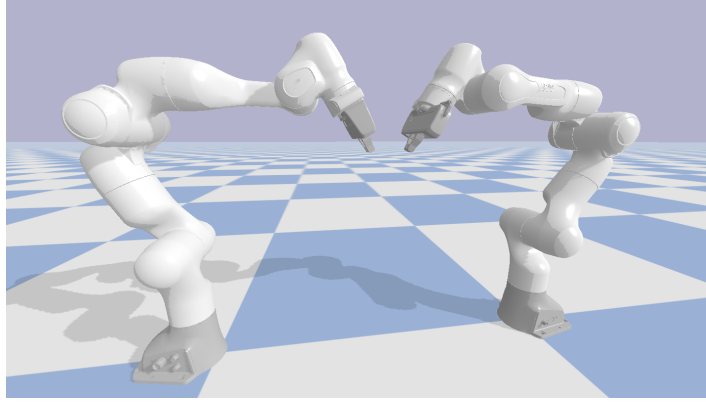

Figure 3: Relative orientation at the grasping position
5. The first phase foresees to move the tool frame of both manipulators to the grasping points, by implementing a “move to” action and its corresponding tasks. Define the goal frames for each manipulator such that their origin corresponds to the grasping points. **HINT:** the position of the grasping points can be computed by knowing the origin of the object frame wO_o and the object length l_{obj} . The goal orientation of the tool frames is obtained by rotating the tool frames 30 deg around their y-axis; the manipulators should reach the configuration depicted in Figure 3.